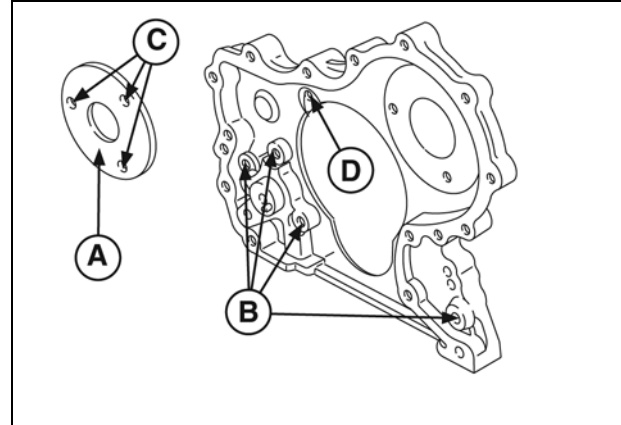

Figure 16
2. Install timing gear case with new gasket. Install camshaft retainer (**A**, Figure 16).
3. Note position, length, and number of screws (Figure 16).